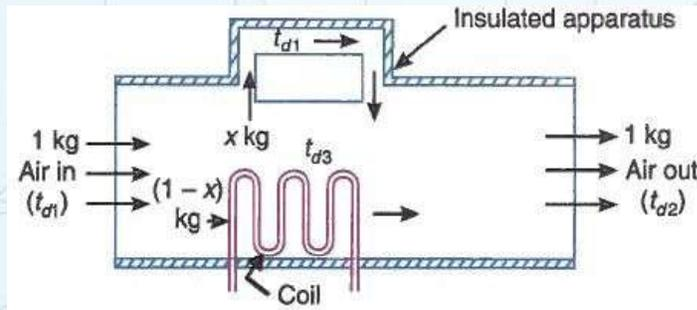

Fig. 2.6 – Bypass factor of coil
- ▶ Let 1 kg of air at temperature t_{d1} is passed over the coil having temperature t_{d3} as shown in Fig. 2.6.